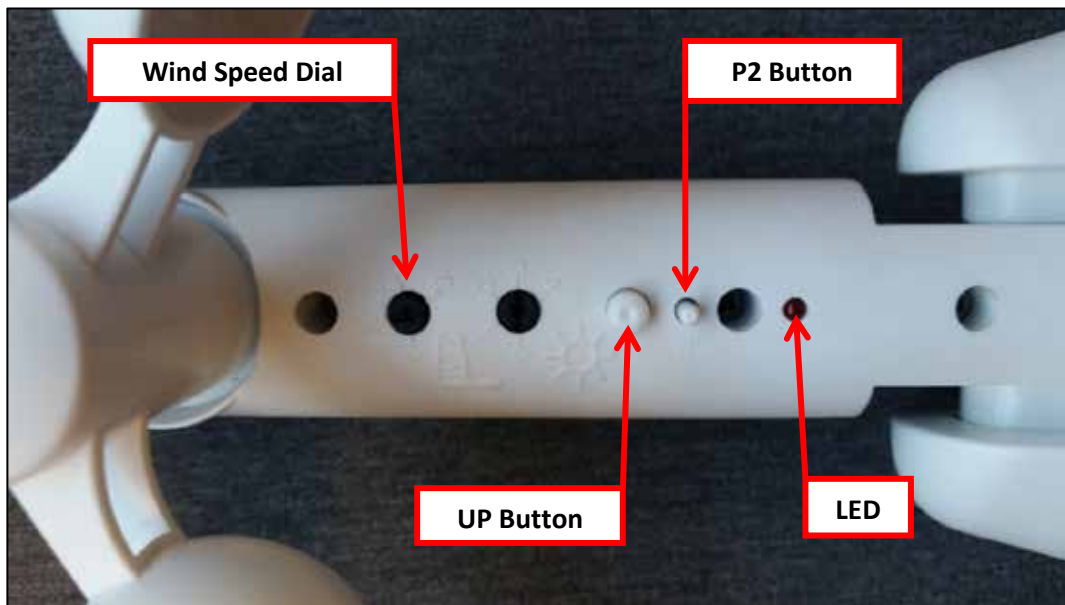

Fig.1
- Set the wind speed dial between 1 and 2 on the anemometer. See Fig.1 above.